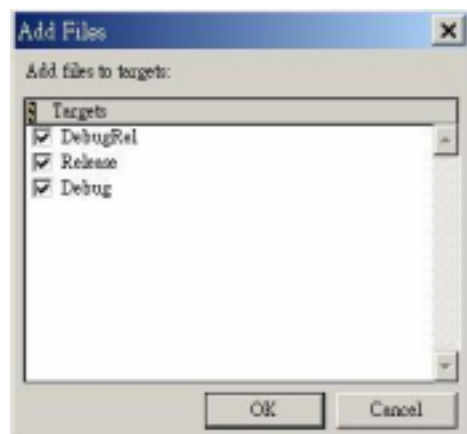

Figure 4 Add files to targets dialog box
- (1) Copy file SSRAM.C to your EX1 directory.
- (2) Select **Project** → **Add Files**.
- (3) Navigate to the EX1 directory and click on SSRAM.C.
- (4) Click **Open**. Then Add all files to targets (Figure 4).